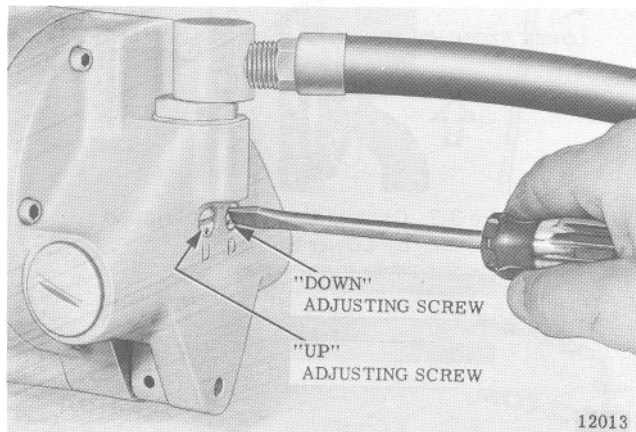

Figure 2-4. Hoisting and Lowering Speed Adjustment.
- To adjust the hoisting or lowering speed, turn appropriate regulator screw (Figure 2-4) in either direction a little at a time while operating hoist under load.